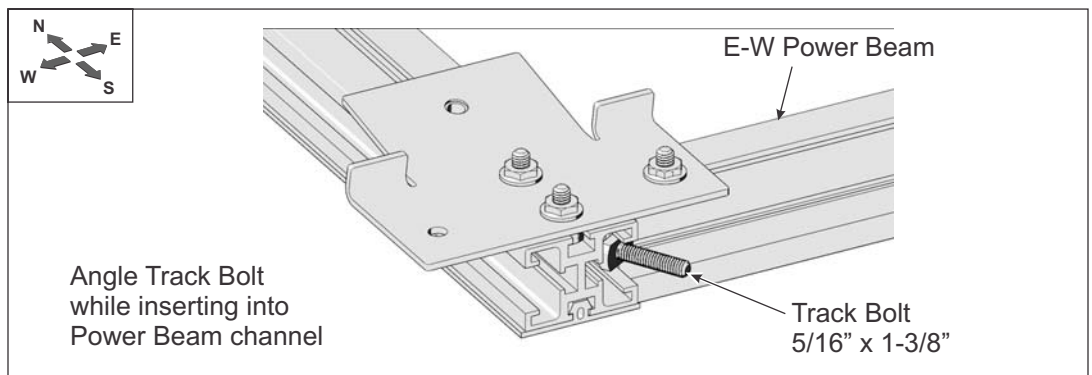

Figure 10-1: Installing Track Bolts into Power Beam
- A. For each Ballast Pan to be installed along the length of the E-W Power Beam, install two 5/6 x 1-3/8 inch Track Bolts into the side channel of the E-W Power Beams. (See Figure 10-1)